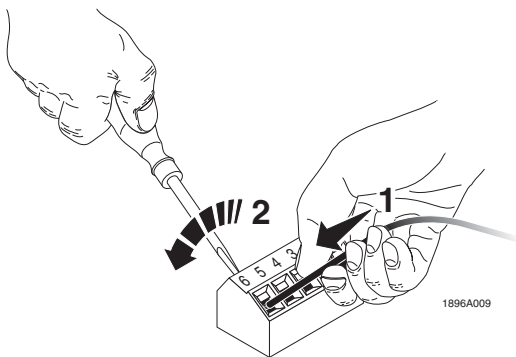

Figure 10. Terminating Conductors
4. Insert a prestripped wire into the appropriate position of the PCB terminal block. Then using a blade-type screwdriver (2.5 mm wide), tighten the PCB terminal block screw to a maximum of 0.4 Nm. See Figure 10. Continue ter-
4. Insert a prestripped wire into the appropriate position of the PCB terminal block. Then using a blade-type screwdriver (2.5 mm wide), tighten the PCB terminal block screw to a maximum of 0.4 Nm. Refer to Figure 10. Continue terminating all remaining wires in this same manner until all wires have been terminated.